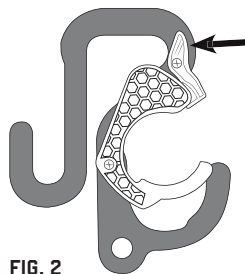

FIG. 2
- Open the gate by pushing the top of the locking tab backwards towards the bucket (FIG 2). This will push the bottom of the tab forward and lift the gate open.